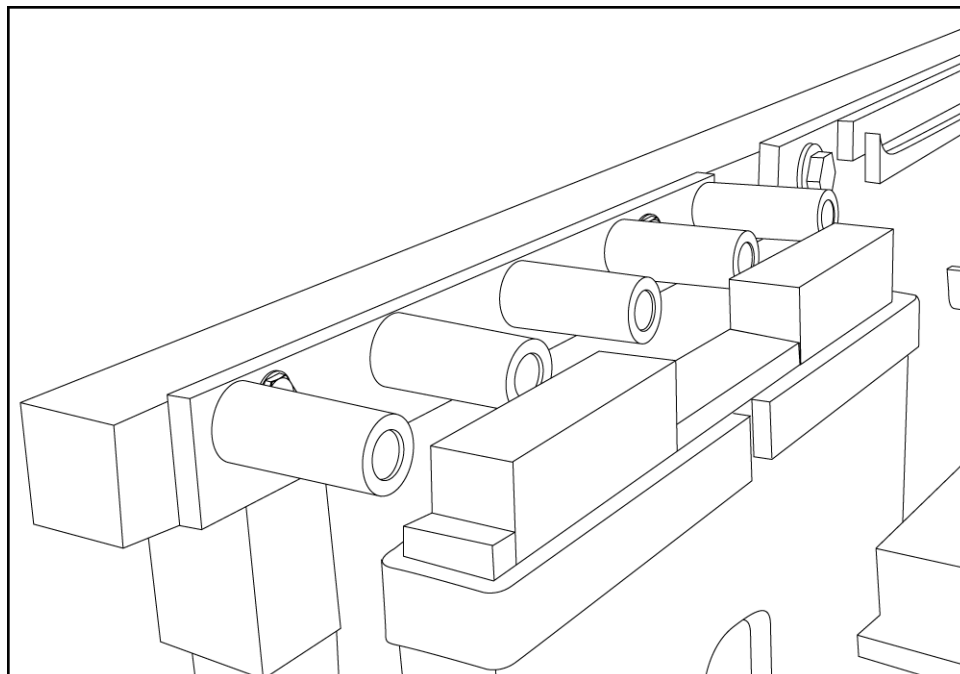

Figure 6.12 ADJUSTING THE BLOCK MOVING BAR FINGERS
6.2.6 Adjust block fingers to center them with the pallet receiver rubbers (see figure 6.12).